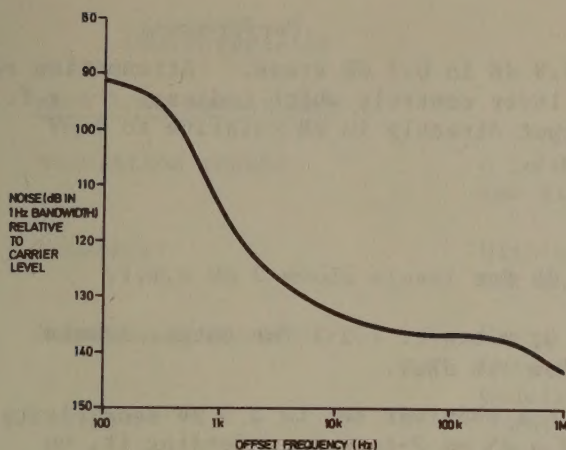

Fig. 2 Typical s.s.b. noise performance of TF 2020
4. In addition to the full range of f.m. and a.m. facilities the TF 2020 provides an output voltage of 4 V down to 0.2 μ V e.m.f. from a 50 Ω source in the f.m. and c.w. modes of operation (2 V e.m.f. max. for a.m.). Despite this high output r.f. leakage has been kept to a minimum, allowing the generator to be used at the minimum output of 0.2 μ V e.m.f. without ambiguity. Non-harmonically related signals are at least 90 dB below the carrier level for frequencies above 120 MHz. At 20 kHz offset the sideband noise of the TF 2020 is at least 130 dB/1 Hz below the carrier level making it an ideal instrument for use as an off-channel signal generator in two-generator selectivity measurements (see Fig. 2).